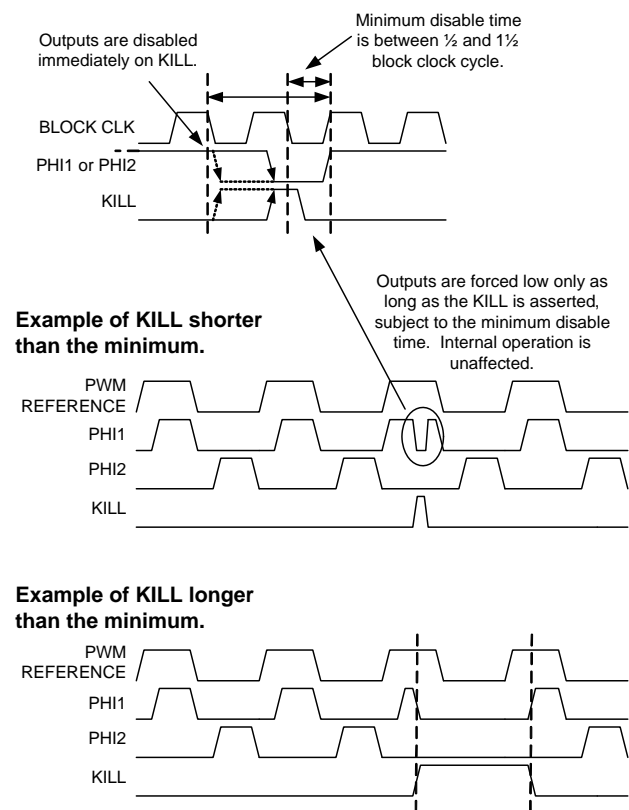

Figure 17-14. Asynchronous Restart Kill Mode
2. **Asynchronous Restart Mode:** When KILL is asserted high, the internal state is not affected. When KILL is negated, the outputs are restored, subject to a minimum disable time between one-half and one and one-half clock cycle. See Figure 17-14.